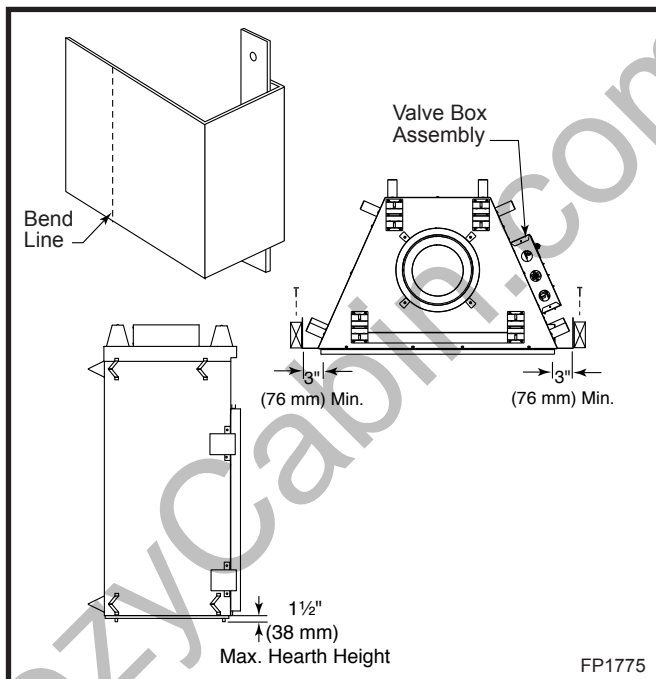

Fig. 5 Nailing flanges.
A hearth is not mandatory but is recommended for aesthetic purposes. We recommend a noncombustible hearth which projects out 12" (305 mm) or more from the front of the fireplace. The hearth cannot exceed 1½" (38mm) in height from bottom of fireplace for ease of door accessibility. (Fig. 5)
2. The unit is shipped with four (4) nailing flanges mounted to the sides near the front corners. (Fig. 5)
4. Attach the fireplace nailing flanges to the frame as shown in Figure 5.
5. The gas components are located in the control panel assembly attached to the right side of the unit. (Fig. 5)